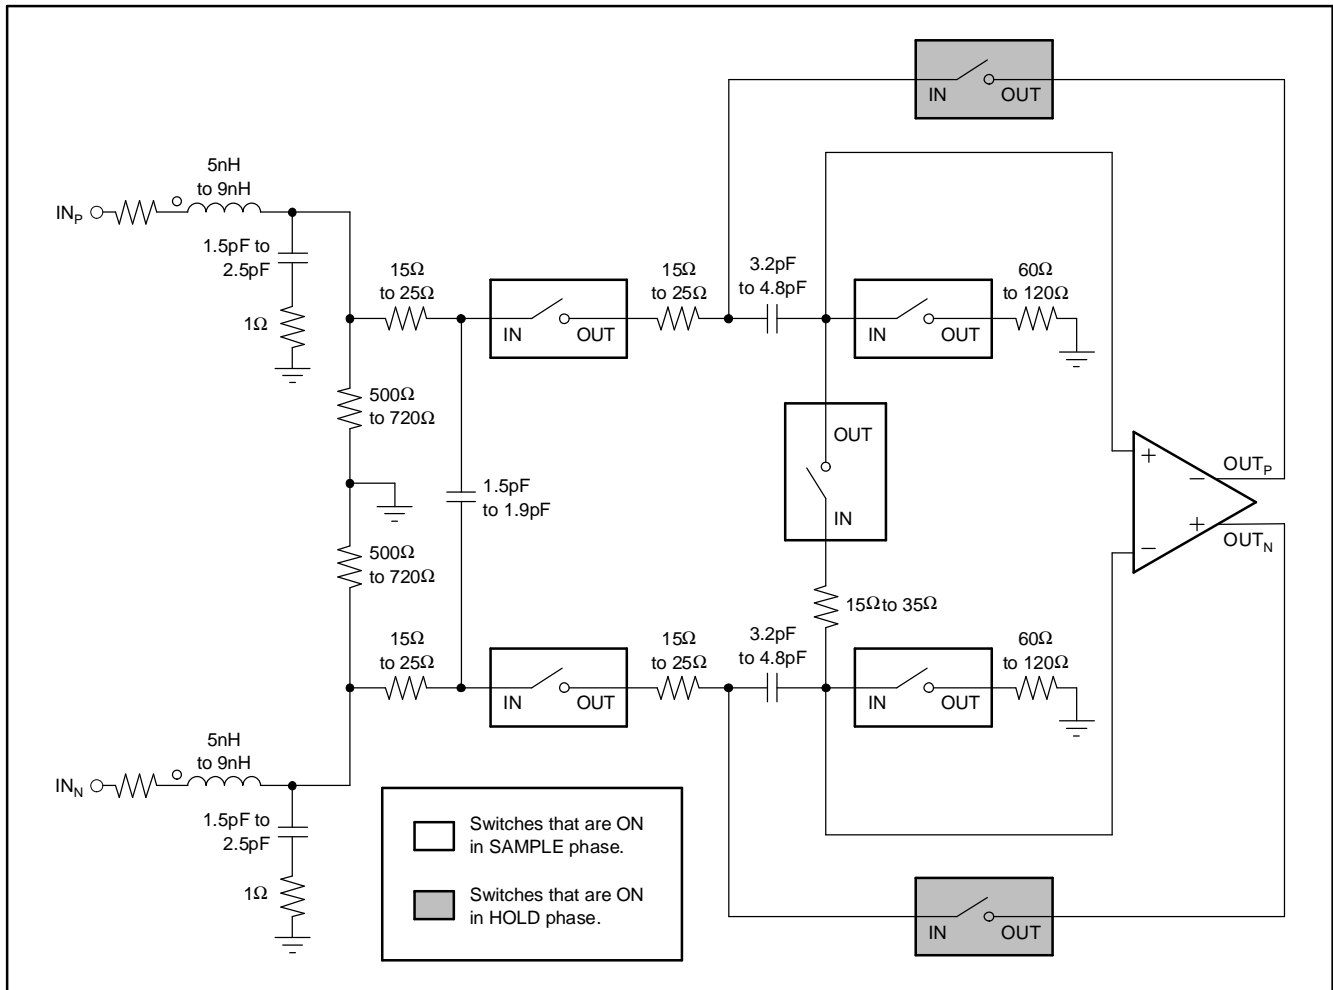

Figure 16. Overall Structure of the Sample-and-Hold Circuit
Figure 16 shows a detailed RLC model of the sample-and-hold circuit. The circuit operates in two phases. In the sample phase, the input is sampled on two capacitors that are nominally 4pF. The sampling circuit consists of a low-pass RC filter at the input to filter out noise components that might be differentially coupled on the input pins. The next phase is the hold phase wherein the voltage sampled on the capacitors is transferred (using the amplifier) to a subsequent pipeline ADC stage.
- Changed Figure 16. 17